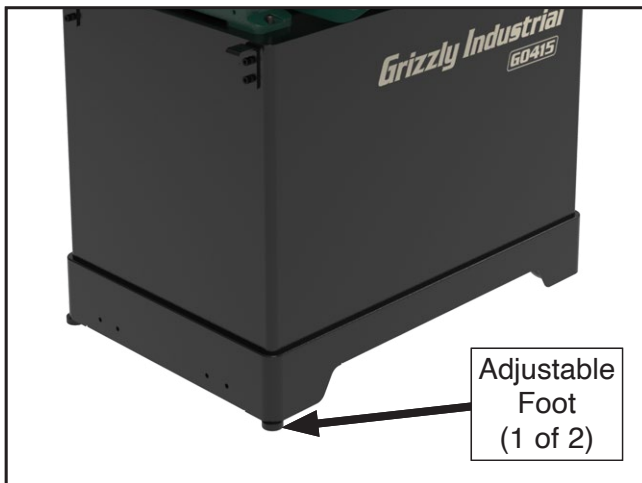

Figure 16. Location of adjustable feet.
- Twist adjustable feet counterclockwise (from above) to raise them off floor (see **Figure 16**).